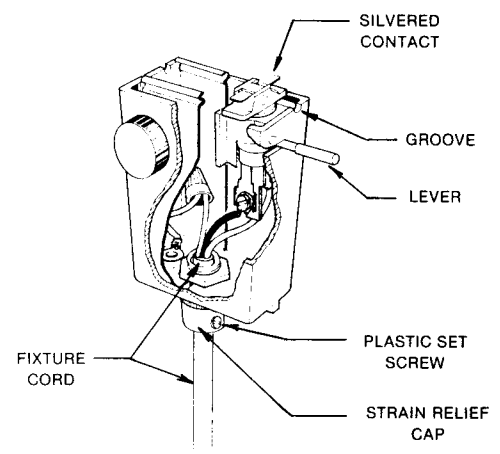

FIG. 2
3. Pull FIXTURE CORD back through attachment HOUSING and push HOUSING INSERT and PLUG ASSEMBLY into HOUSING (silvered contact in PLUG ASSEMBLY facing grooved side of attachment HOUSING). Push ground leads into area between SPRING section. Fig. 2.
4. Allow fixture cord to extend into attachment HOUSING by 1/8" and tighten PLASTIC SET SCREW. Fig. 2.